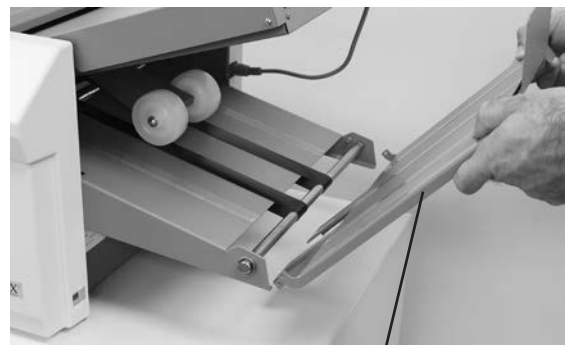

Fig. 2
3. Insert the telescoping extension tray into the end of the outfeed conveyor (Fig. 2).